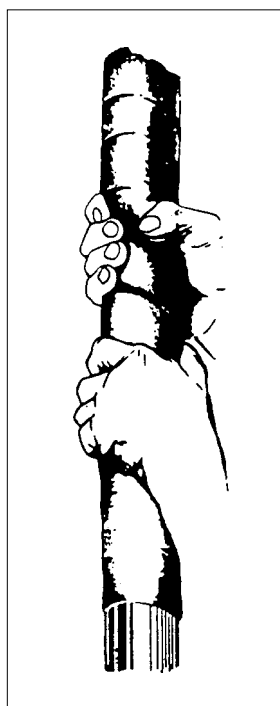

Figure 2
- 7.6 At the completion of each roll, smooth the overlaps by hand in the direction of the spiral (*See Figure 2*) to ensure sealing of the overlap.
- 7.7 On all vertical applications begin at the bottom and proceed up thereby creating a "weather-board" overlap (*See Figure 2*).